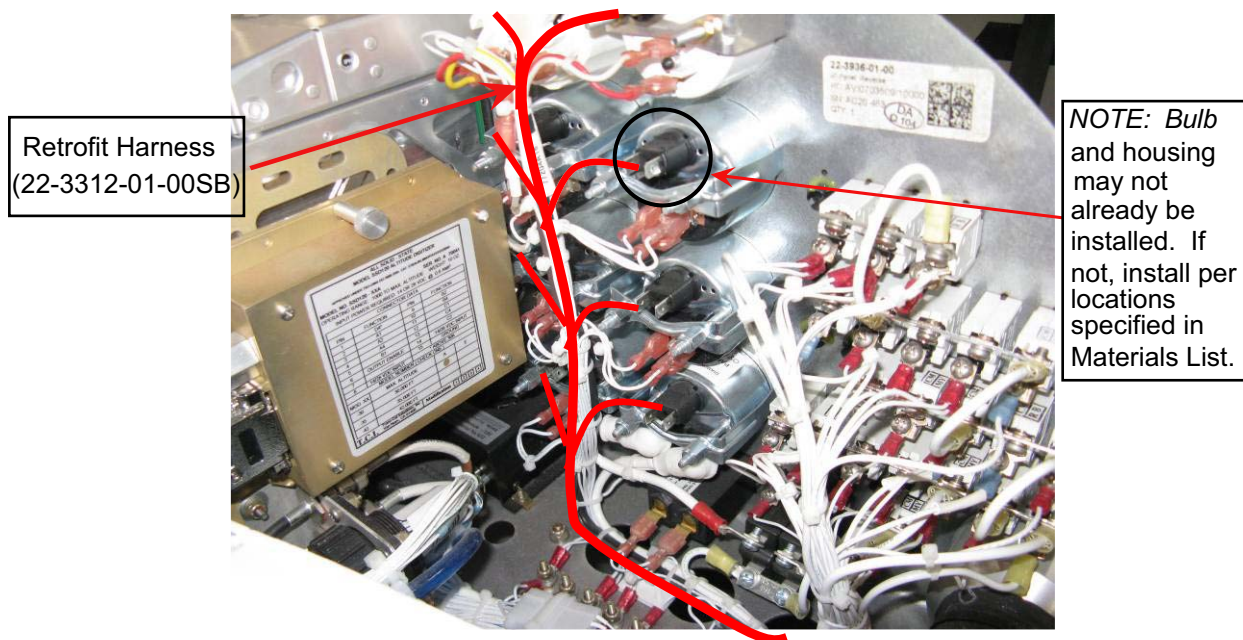

Figure 1
- 10.4 Route the Backlighting retrofit harness (P/N 22-3312-01-00SB) onto the existing instrument panel harness starting at the engine gauges as shown in Figure 1.